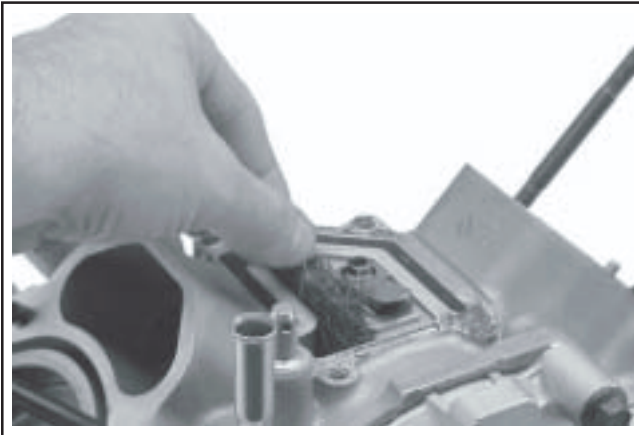

Figure 11-24. Installing Breather Filter.
4. Install the breather filter into the cavity in the crankcase. See Figure 11-24.